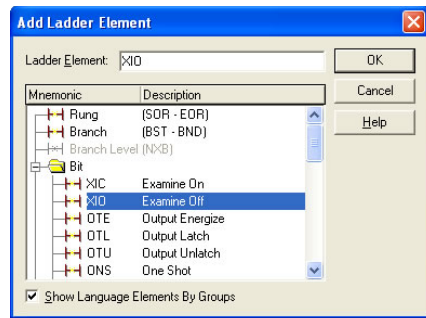

Figure 98: Adding an XIO Element
- c) Select the "XIO" element in the Bit folder. Refer to Figure 98.